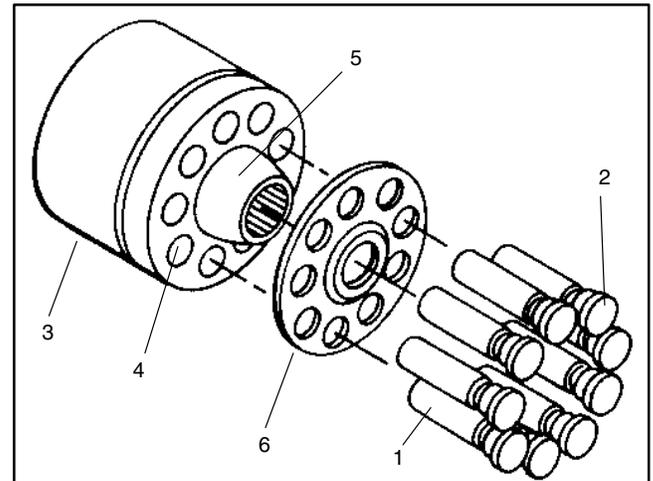

Figure 48
3. Inspect cylinder block assembly. (Fig. 48).